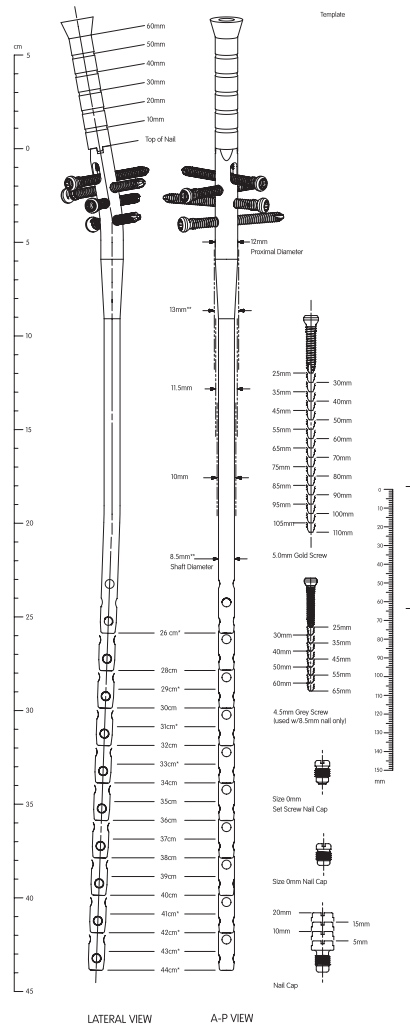

Figure 16
4. Confirm the guide rod position in the window at the opposite end of the Ruler as shown in order to ensure accurate implant measurement (Figure 16).